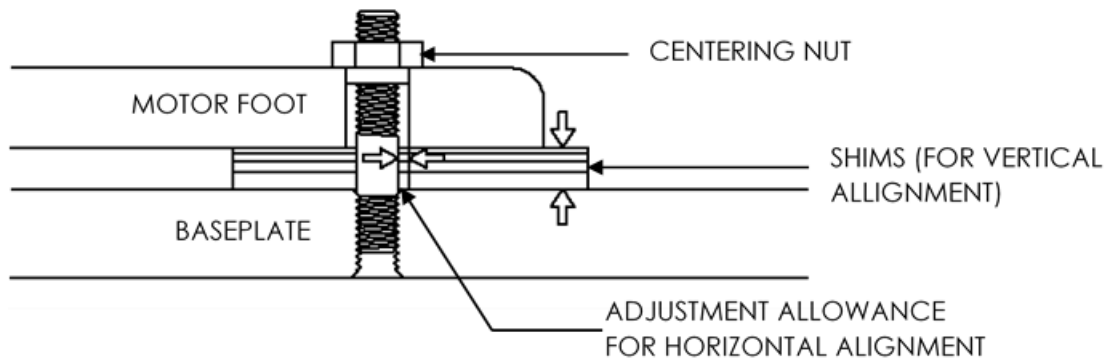

Figure 21: Center Mounting Feet Holes
4. The motor feet holes are centered on the motor mounting fasteners. This is done by using a centering nut, as shown in Figure 21.